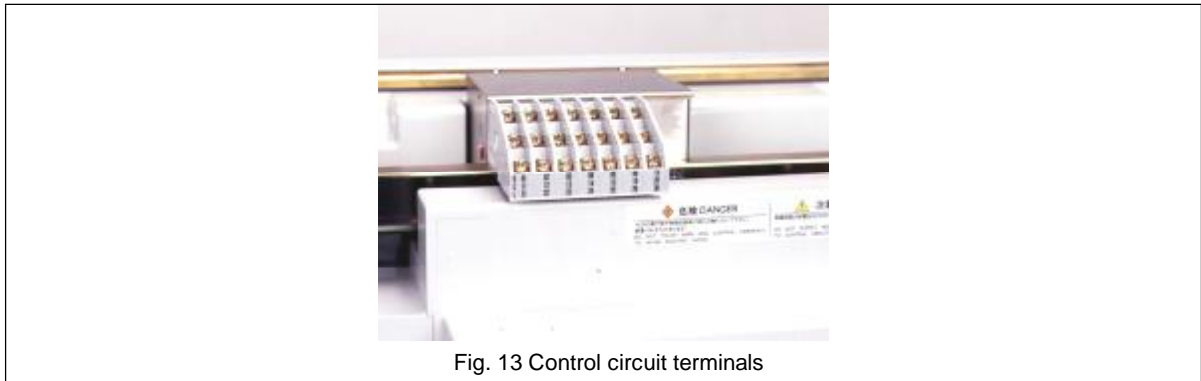

Fig. 13 Control circuit terminals
③⑧ Control circuit terminals	Allow connections of external control wire to the control circuits. Wire connections are made through M4 screw terminals. Fig. 13 shows the control circuit terminals.